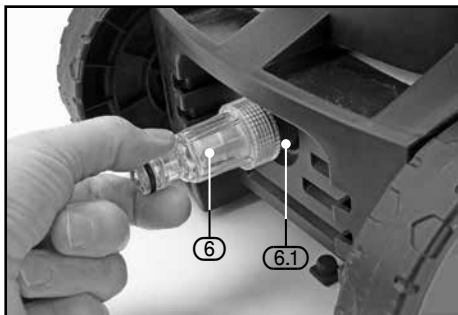
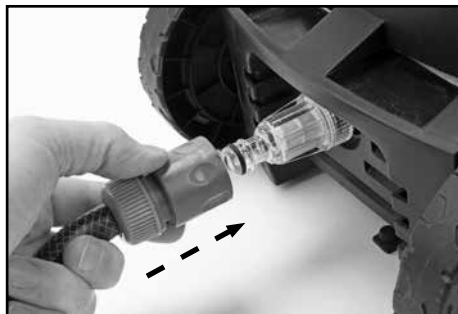

FIG.13
FIG.14
8.7 CONNECTING THE WATER SUPPLY – FIGS.13 – 14
- Screw the supplied water inlet adaptor (6) to the water inlet connection (6.1) taking care not to cross the threads.
- To connect the pressure washer to the water supply, a push fit hose connector will be required (FIG.14). Ensure the connector is correctly fitted to the hose and that a 'click' is heard when attaching to the machine.